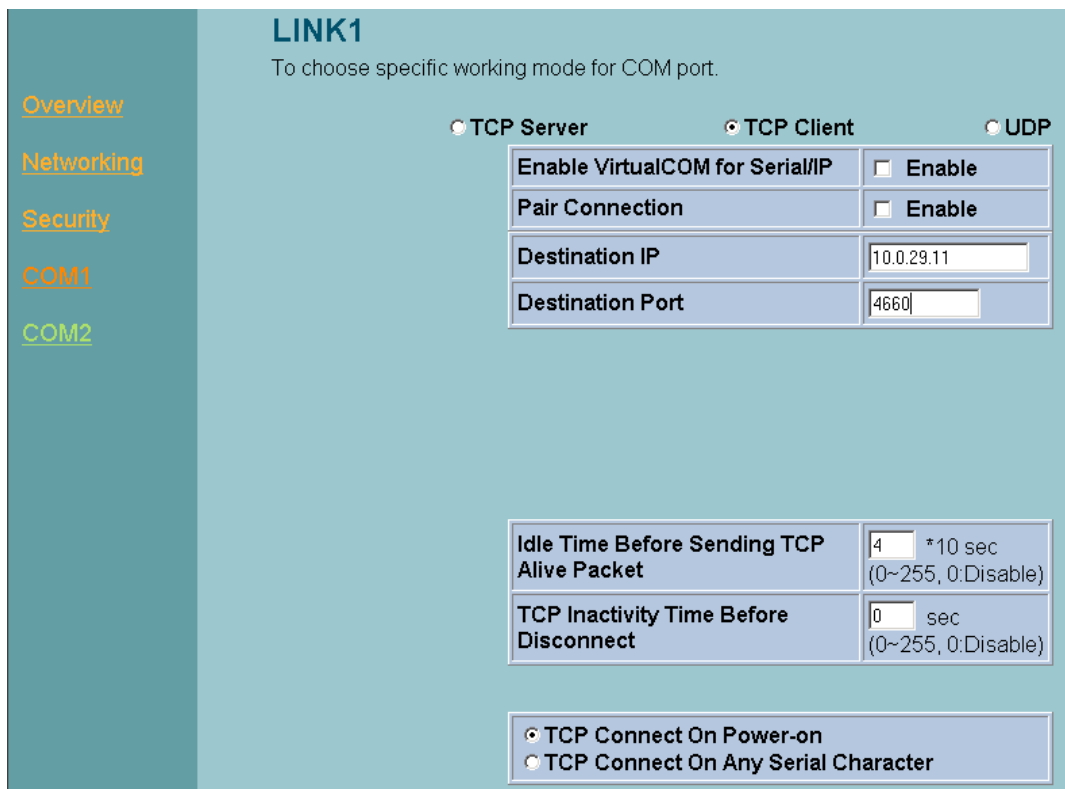

Fig. 27. Com1 setup-TCP client
- ➔ Configure SE5002 as a TCP client. For example, the destination IP is 10.0.29.11, and the destination port is 4660 (Fig. 27)